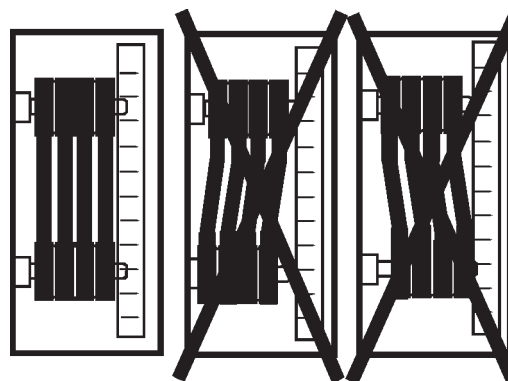

Figure 16. V-Belt Parallelism
2. Check uniform parallelism (Figure 16) of V-belts and pulley (sheaves). Use a straight edge or machinists's square against both pulleys and adjust both pulleys until equally aligned.